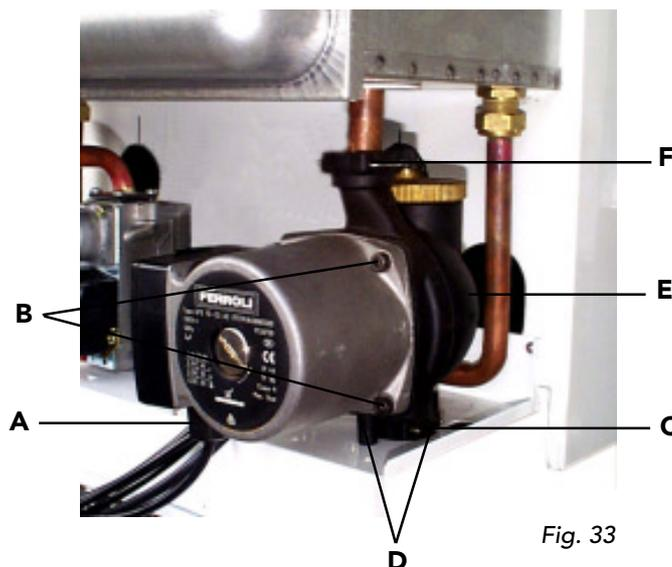

Fig. 33
7.15 Pump (fig. 33)
Replacement of pump body (fig. 33)